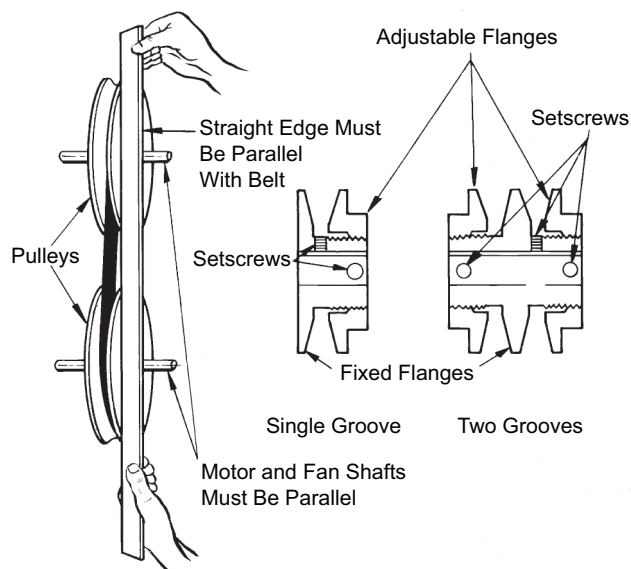

Fig. 40 — Fan Pulley Adjustments
3. Use the methods shown in Fig. 40 to check proper pulley alignment.
2. Loosen setscrew in movable flange of pulley. Screw movable flange toward fixed flange to increase the fan speed and away from fixed flange to reduce speed. Before tightening setscrew, make certain that setscrew is over nearest flat surface of pulley hub. See Fig. 40.